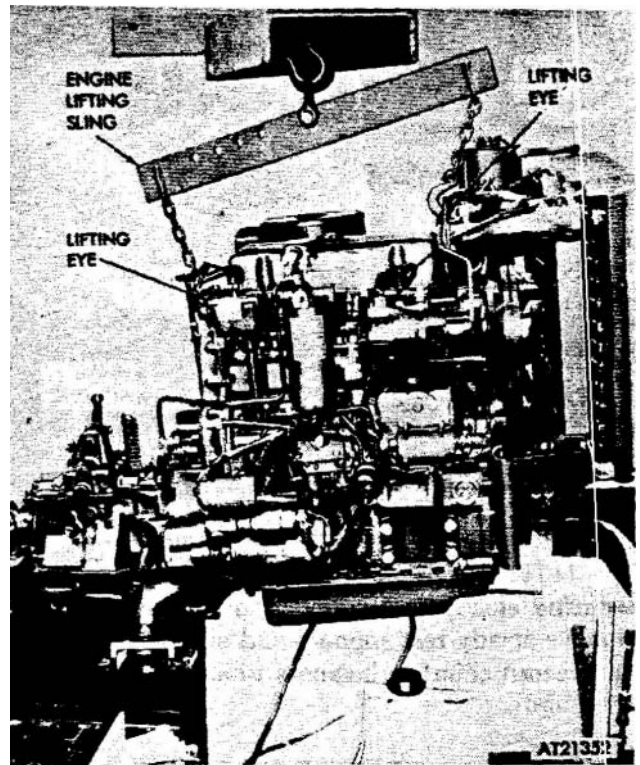

Figure 2-60. Engine lifting sling.
(25) Hoist and carefully guide power plant assembly out of engine compartment (fig 2-60) and lower onto a suitable stand, cradle, or skid.
(1) Attach lifting sling to engine lifting eyes and connect lifting sling to a suitable hoist (fig 2-60).
(2) Hoist power plant assembly and carefully guide into engine compartment and lower on mounting brackets.